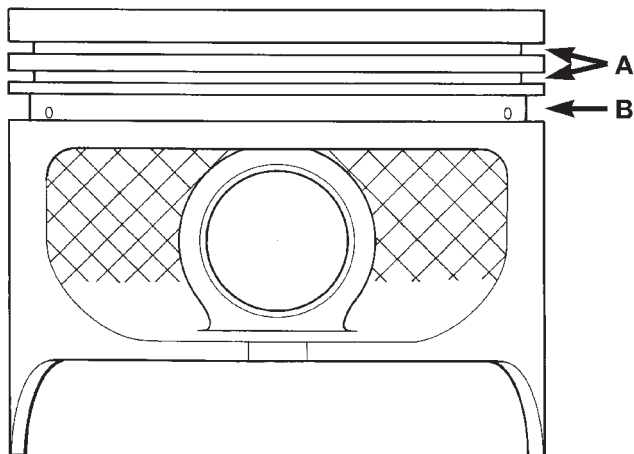
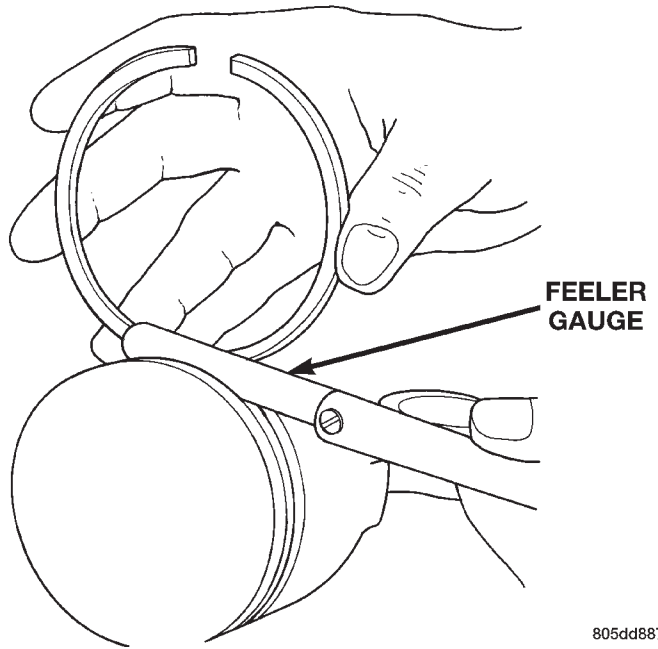

Fig. 5 Piston Dimensions
Fig. 6 Ring Side Clearance Measurement
(3) Measure the ring side clearance with a feeler gauge fitted snugly between the ring land and ring (Fig. 5) (Fig. 6). Rotate the ring in the groove. It must move freely around circumference of the groove.